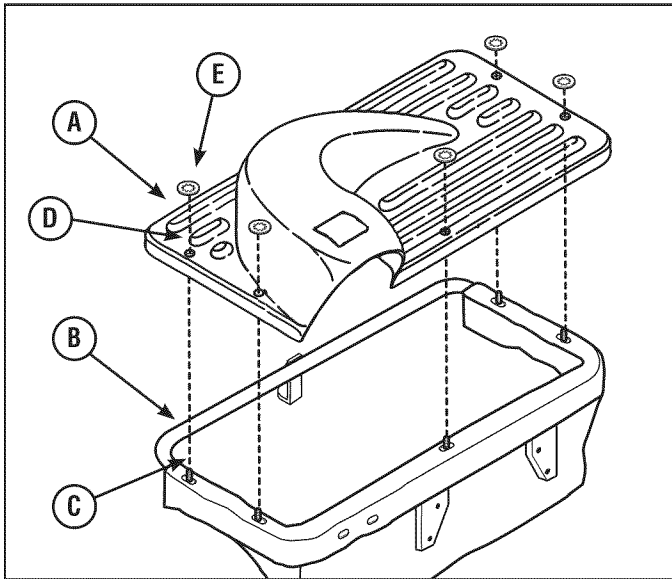

Figure 5
1. Place cover (A, Figure 5) over top of grass catcher assembly (B) and insert frame pegs (C) through holes (D) of cover.
2. Using a 1/2" socket wrench, secure frame pegs with faceted washers (E).